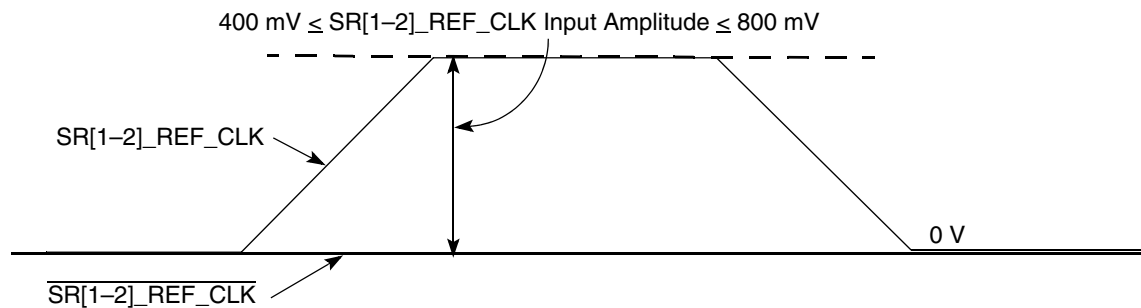

Figure 9. Single-Ended Reference Clock Input DC Requirements
- The SR[1-2]_REF_CLK input average voltage must be between 200 and 400 mV. Figure 9 shows the SerDes reference clock input requirement for single-ended signalling mode.